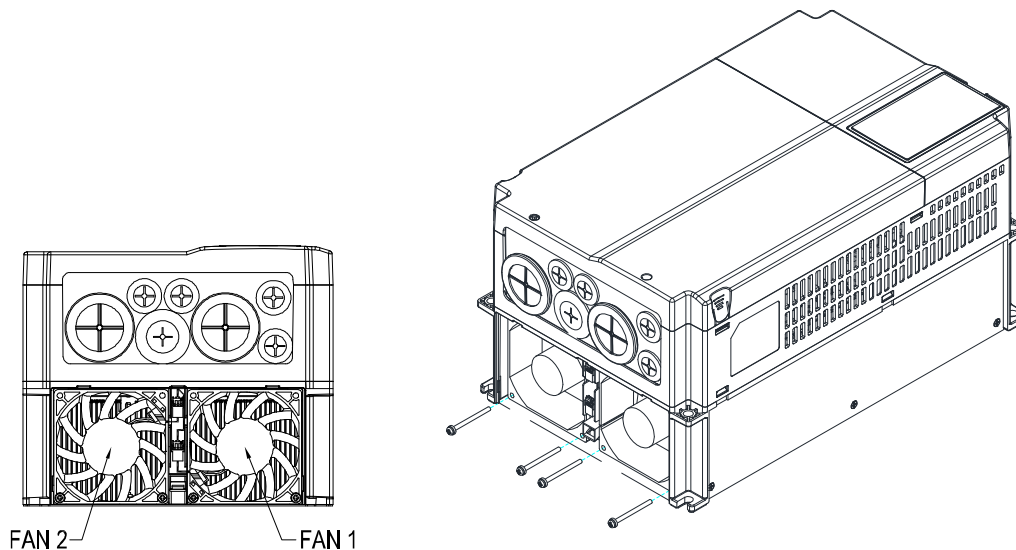

Figure 2
2. (As shown in Figure 2), remove the power connector, loosen the screw and remove the fan kit. When installing the fan kit, have the label on the fan kit facing inside of the motor drive. Screw's torque force: 10–12 kg-cm / [8.7–10.4 lb-in.] / [1.0–1.2 Nm]